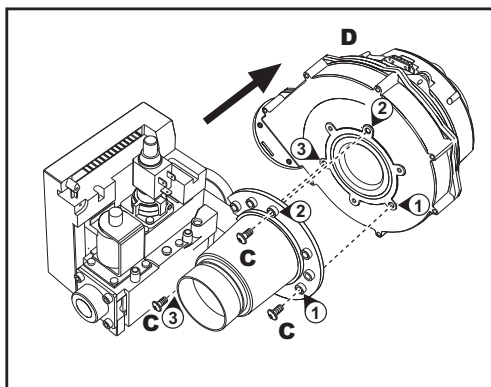

fig. 31 - model ENERGY TOP W 125
6. Undo the screws "C" and remove the fan "D" (fig. 31 - only model ENERGY TOP W 125)